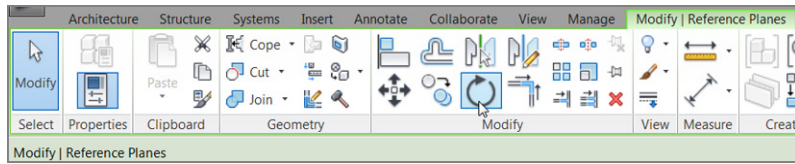

FIGURE 4.8: The Rotate command is active for the specific item you've selected.
2. On the Modify tab, click the Rotate button, as shown in Figure 4.8.